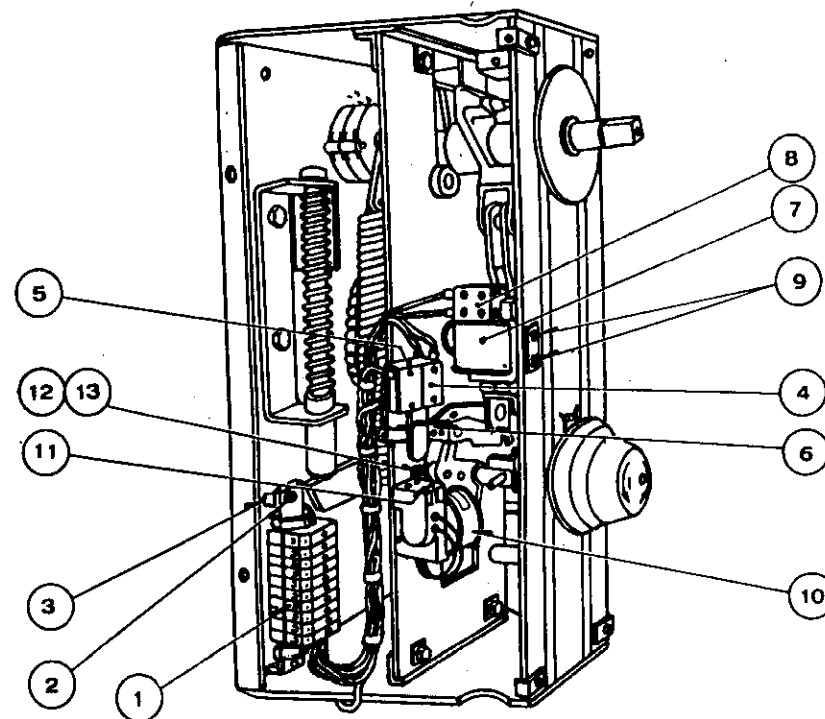

Fig. 11
7.1. Terminal board (1) (fig. 11)
7.2. "Loaded spring" electrical indication contacts (4) (fig. 11)
7.3. Shunt trip type SA (7) (fig. 11)
- fix the unit to the front plate by means of screws (9)
- connect the supply cables to the terminal board (1) through the contact CR as shown on tables V, VI, VII
7.4. Closing release type SC (fig. 11)